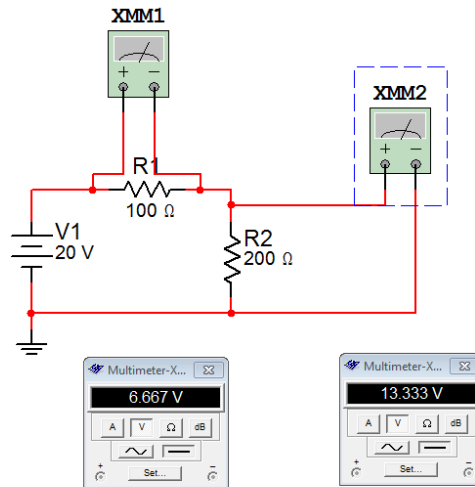

Figure 1-6
Once the components are in place and wired, double-click each component to set their values as shown in Figure 1-6. We shall then add two the two voltmeters. Please note that it is perfectly acceptable to change the component values immediately after dragging them onto the workspace; you don't have to wait until they are wired together. It is suggested, though, that you decide upon a particular workflow and stick to it otherwise the chances of forgetting to change components from their default values increases.
To add the voltmeters (XMM1 and XXM2 in Figure 1-6), select a virtual DMM from the top of the Instruments toolbar along the right edge of the screen. Drag this onto the workspace and wire it across R1 as shown in Figure 1-6. Grab a second virtual DMM and repeat the process for R2. Now double click on the DMMs. Two small windows will pop up (they might overlap each other, if so, move one over). Select the V (voltage) button and the straight line (DC) button on each of them. The circuit is now ready to perform a simulation.